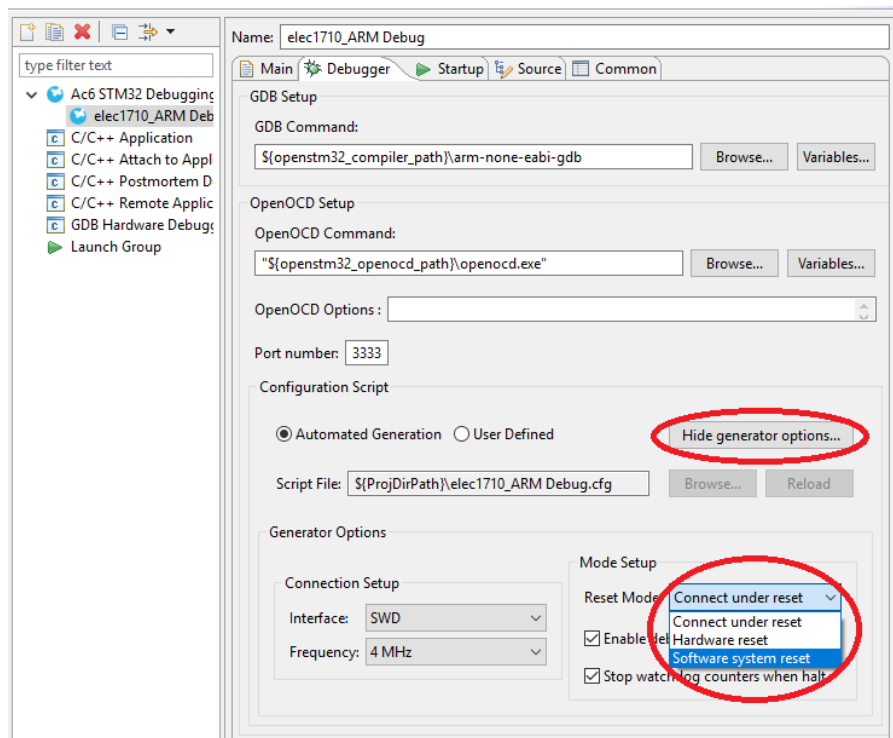

Figure 8: Configuring OpenOCD for the ST-Link debugger.
4. Navigate to the 'Debugger' tab. Click the "Show generator options" button and select "Software system reset" from the "Reset Mode" drop down menu, as shown in Figure 8).